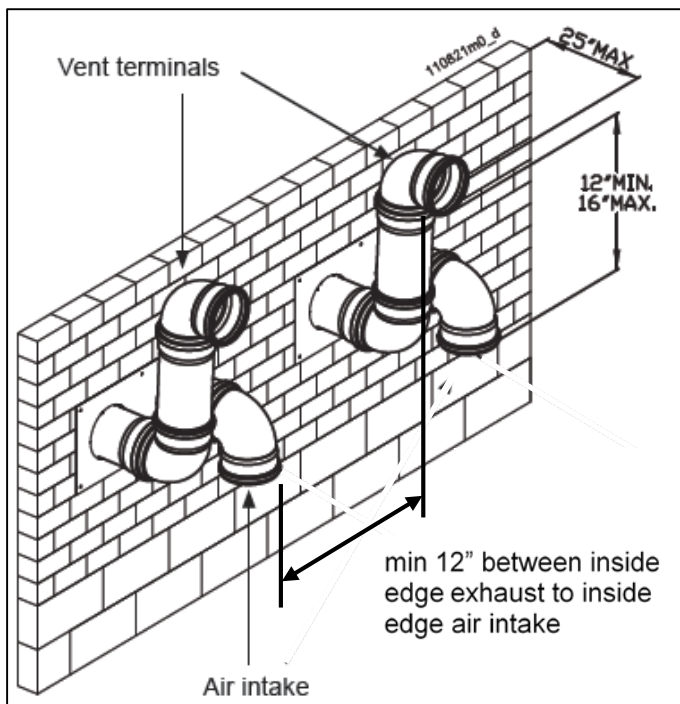

Figure 9-14
1. When terminating multiple boilers, terminate each vent/air connection as described in this manual (Figure 9-14).
2. Place wall penetrations to obtain minimum clearance of 12 inches (305 mm) between the inside edge of the exhaust vent and the inside edge of the air intake elbow, as shown in Figure 9-14 for U.S. installations. For Canadian installations, provide clearances required by CSA B149.1 Installation Code.